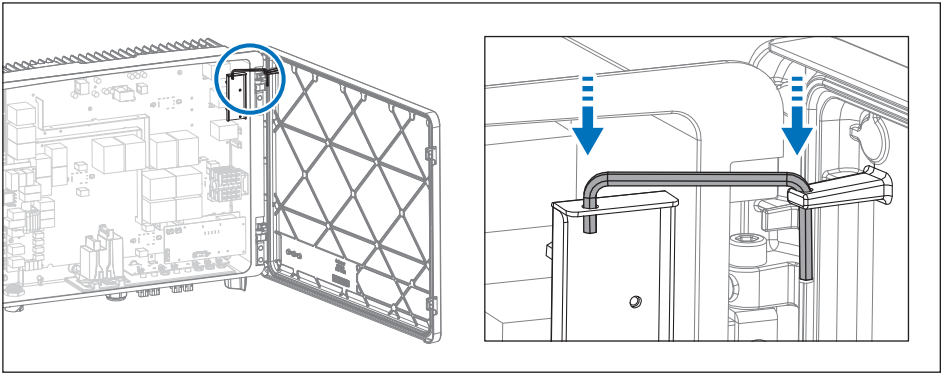

Figure 5-2: To secure door by hexagon driver
3. Use the hexagon wrench to secure the door from closing. (**Figure 5-2**)